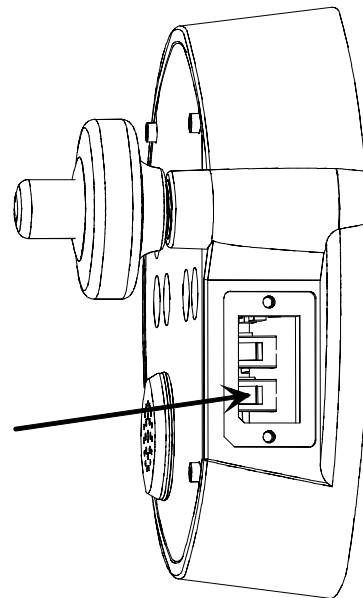

Figure 9-14
- ⇒ Measure the resistance between the ground (-) terminal (as shown on Figure 9-14) of the electronic circuit and the tube of the sensing probe; the resistance should be less than 10 Ω . If it is higher, the steel tape might be broken or the connection between the sensing probe circuit and the sensing probe tube might be interrupted.